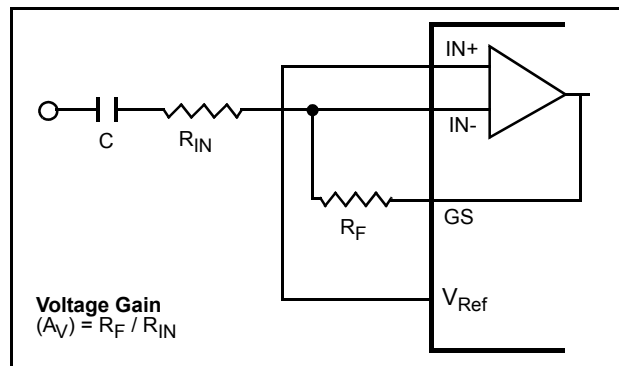
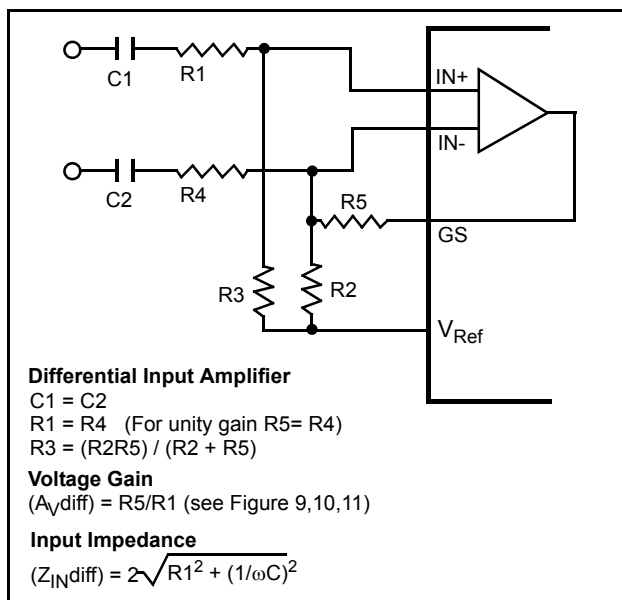

Figure 6 - Single-Ended Input Configuration
Figure 7 - Differential Input Configuration
The MT88E43 provides an input arrangement comprised of an operational amplifier and a bias source ( $V_{Ref}$ ); which is used to bias the opamp inputs at  $V_{DD}/2$ . The feedback resistor at the opamp output (GS) can be used to adjust the gain. In a single-ended configuration, the opamp is connected as shown in Figure 6. For a differential input configuration, Figure 7 shows the necessary connections.